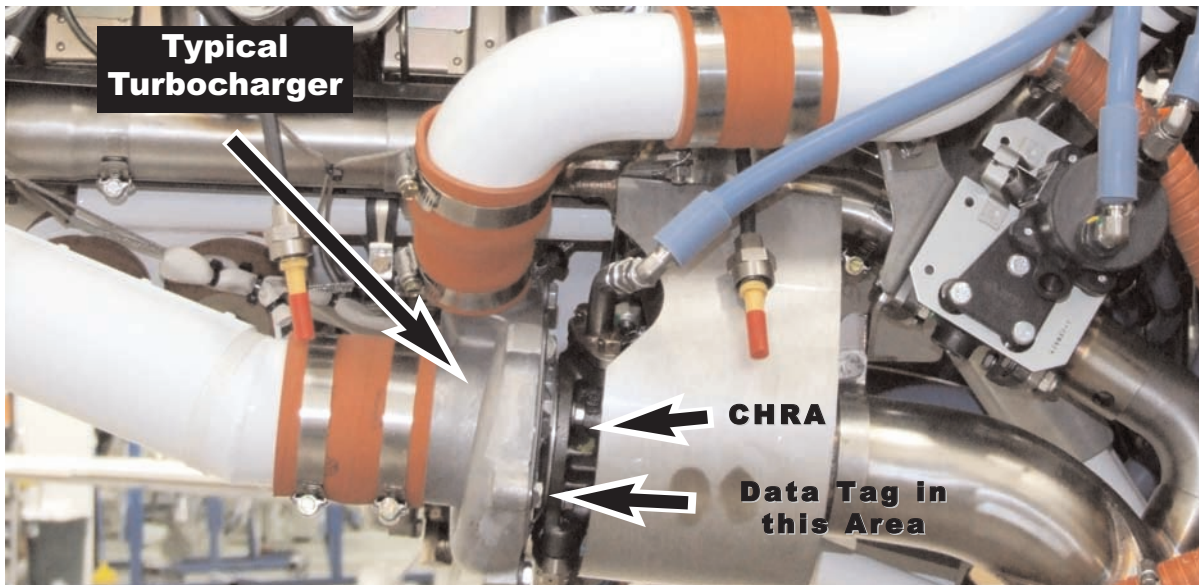

Figure 1 - Typical Turbo Installation
2. Refer to Table I to determine if the turbocharger being inspected is an affected part number. Observe the part number found on the data plate. If the affected part number **does not** appear, go to the "Return to Service" section step 3 & 4. If an affected part number **does** appear, continue with step 3. (See Figure 1 for typical turbocharger installation.)